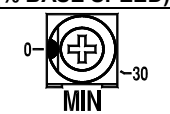

FIGURE 11
5.5 Acceleration Trimpot (ACCEL): The ACCEL Trimpot is provided to allow for a smooth start over an adjustable time period each time the DC input power is applied or the Main Speed Potentiometer is adjusted to a higher speed. The ACCEL Trimpot is factory set to 2.5 seconds, which is the amount of time it will take for the motor to accelerate from zero speed to full speed. To increase the acceleration time, rotate the ACCEL Trimpot clockwise. To decrease the acceleration time, rotate the ACCEL Trimpot counterclockwise. See Figure 11 on page 3.